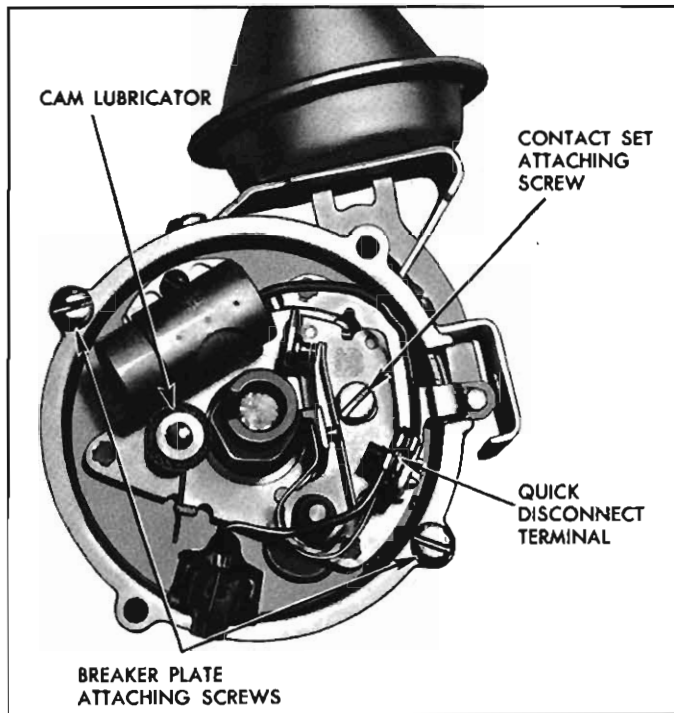

Fig. 8-3—Breaker Plate and Attaching Parts
Refer to Figures 8-3 through 8-5
Refer to Figure 8-3
3. Pull primary and condenser lead wires from contact point quick-disconnect terminal (fig. 8-3).
4. Remove contact set attaching screw, lift contact point set from breaker plate (fig. 8-3).
10. Rotate cam lubricator 90° (fig. 8-3).
3. Scratch a realignment mark on distributor in line with rotor segment (fig. 8-3).
4. Remove breaker plate attaching screws, remove breaker plate from distributor housing (fig. 8-3).
5. Position breaker plate assembly in housing and attach retaining screws (see fig. 8-3).